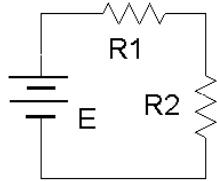

Figure 2
6. Build the circuit of figure 2 using $E=10\text{ V}$, $R_1=10\text{ k}\Omega$ and $R_2=33\text{k}\Omega$. Connect a probe from the channel one input to the power supply (red or tip to the positive terminal, black clip to ground). Connect a second probe from channel two to R_2 (again, red or tip to the high side of the resistor and the black clip to ground).